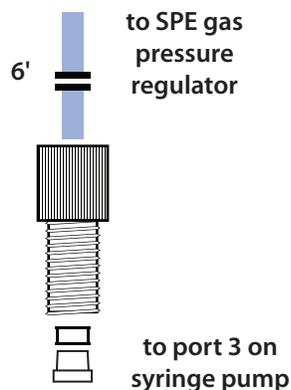

Figure 5: Air/Gas Supply Connections
2. Connect the other end to the pressure regulator. Refer to Figure 5: Air/Gas Supply Connections for more information.